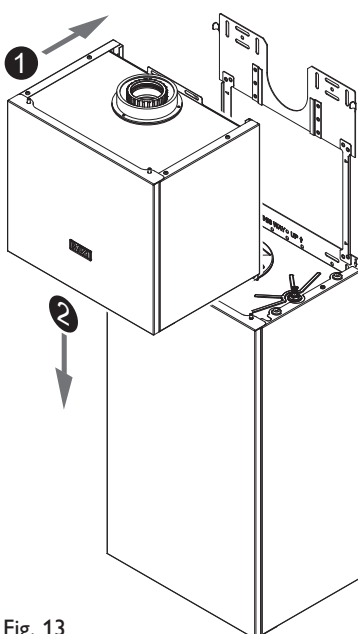

Fig. 13
5. The Assure FGHR can now be fitted (Figs. 13 & 14). Locate the slots in the rear on the upper plate and flue connection on the underside of the Assure FGHR in the boiler adaptor, taking care to not displace the seals.